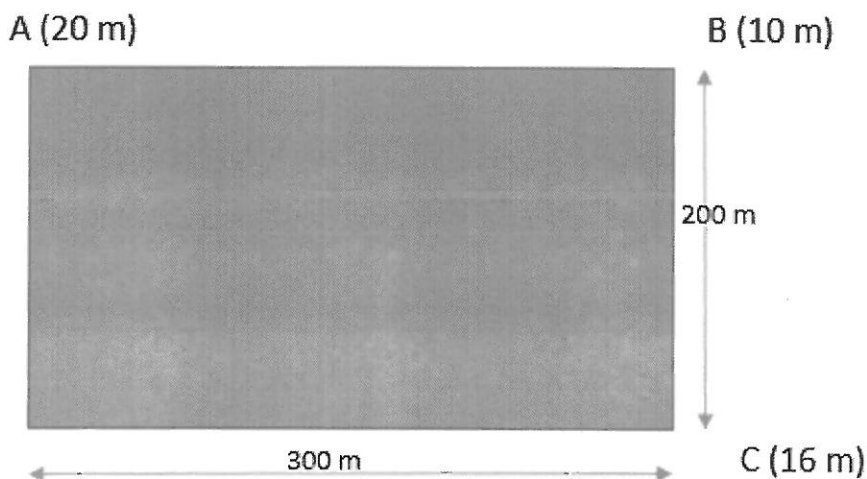

Figure 5.1: Plan view of a profile
5.2.2) The tested soil was taken from a profile whose plan view is shown in the figure below (Figure 5.1). Open standpipes piezometers have been installed at points A, B and C. The levels of water in the 3 piezometers are respectively 20 m, 10 m and 16 m from a common reference point. What is the direction and the quantity of flow of water per unit width between point A and C if points A, B and C are in a phreatic zone of a saturated depth of 2m?